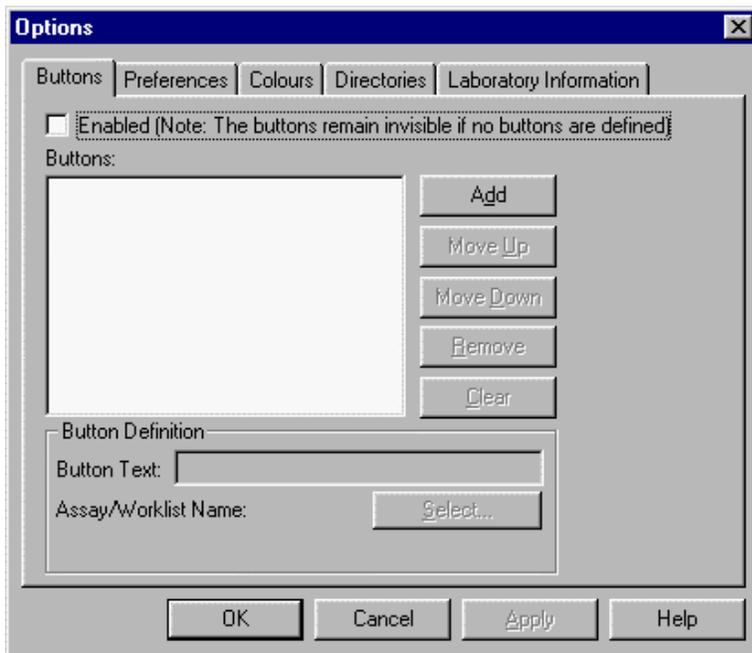

Figure 26. Options Dialog Box
1. Select **Options** from the **Tools** menu. The Options dialog box is displayed (Figure 26).